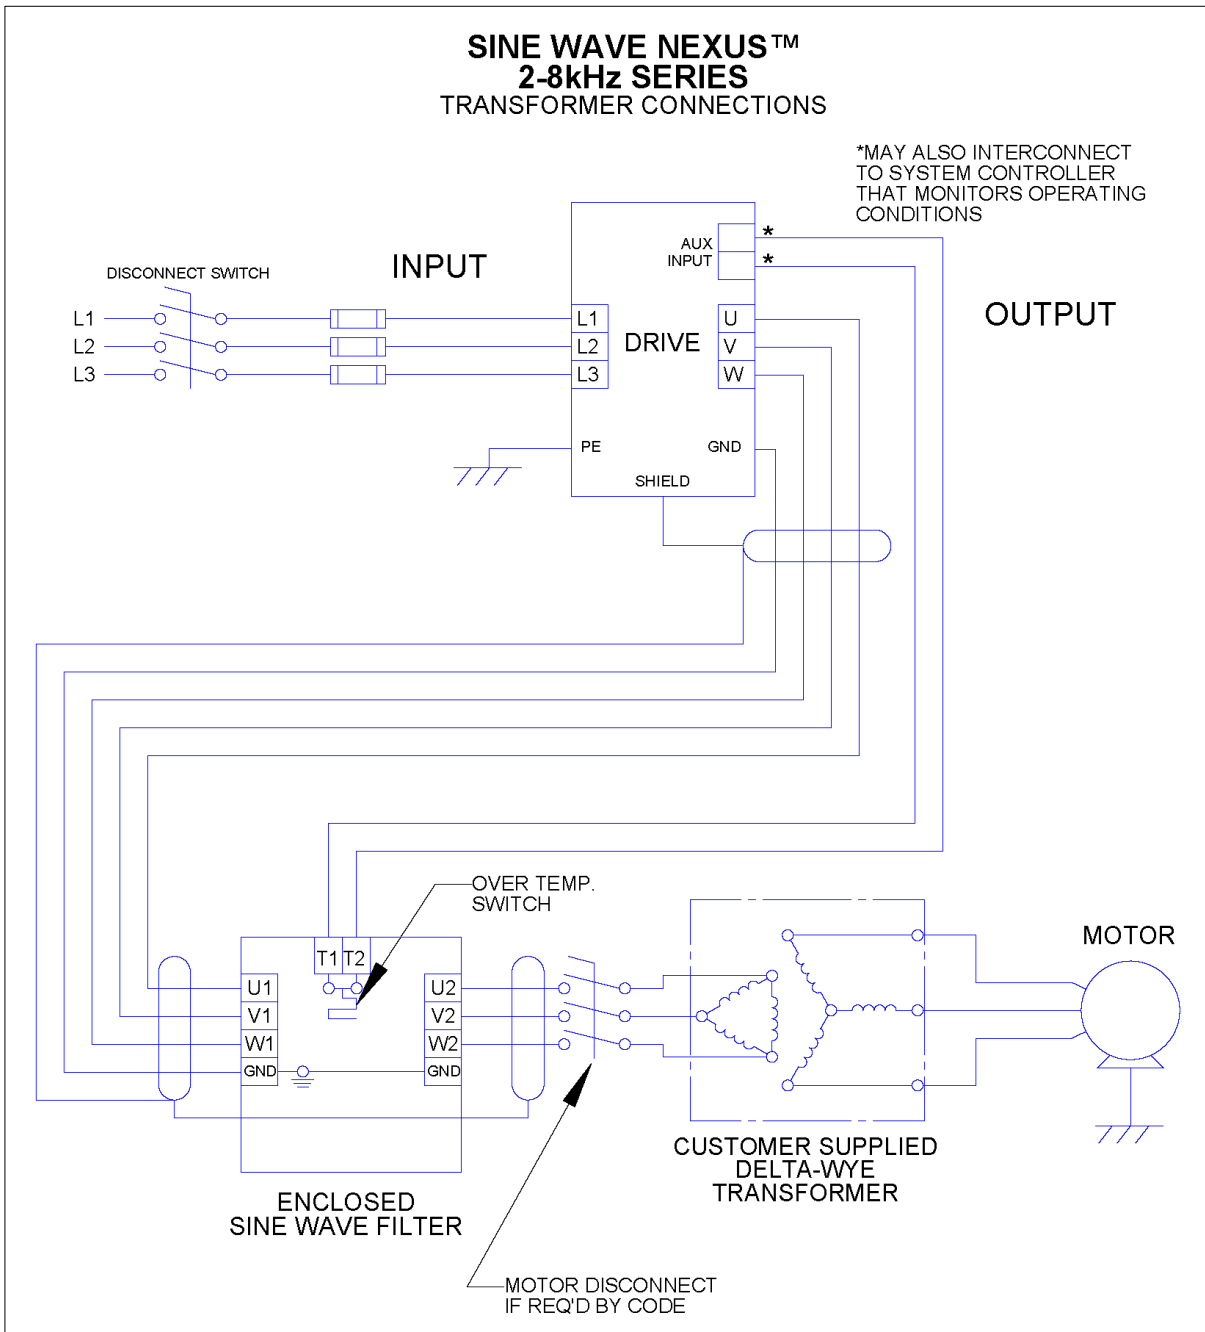

Figure 5-4: Transformer Diagram
- For transformers, interconnection between the power source, the filter, the motor and the drive is shown in Figure 5-4: Transformer Diagram (p25).